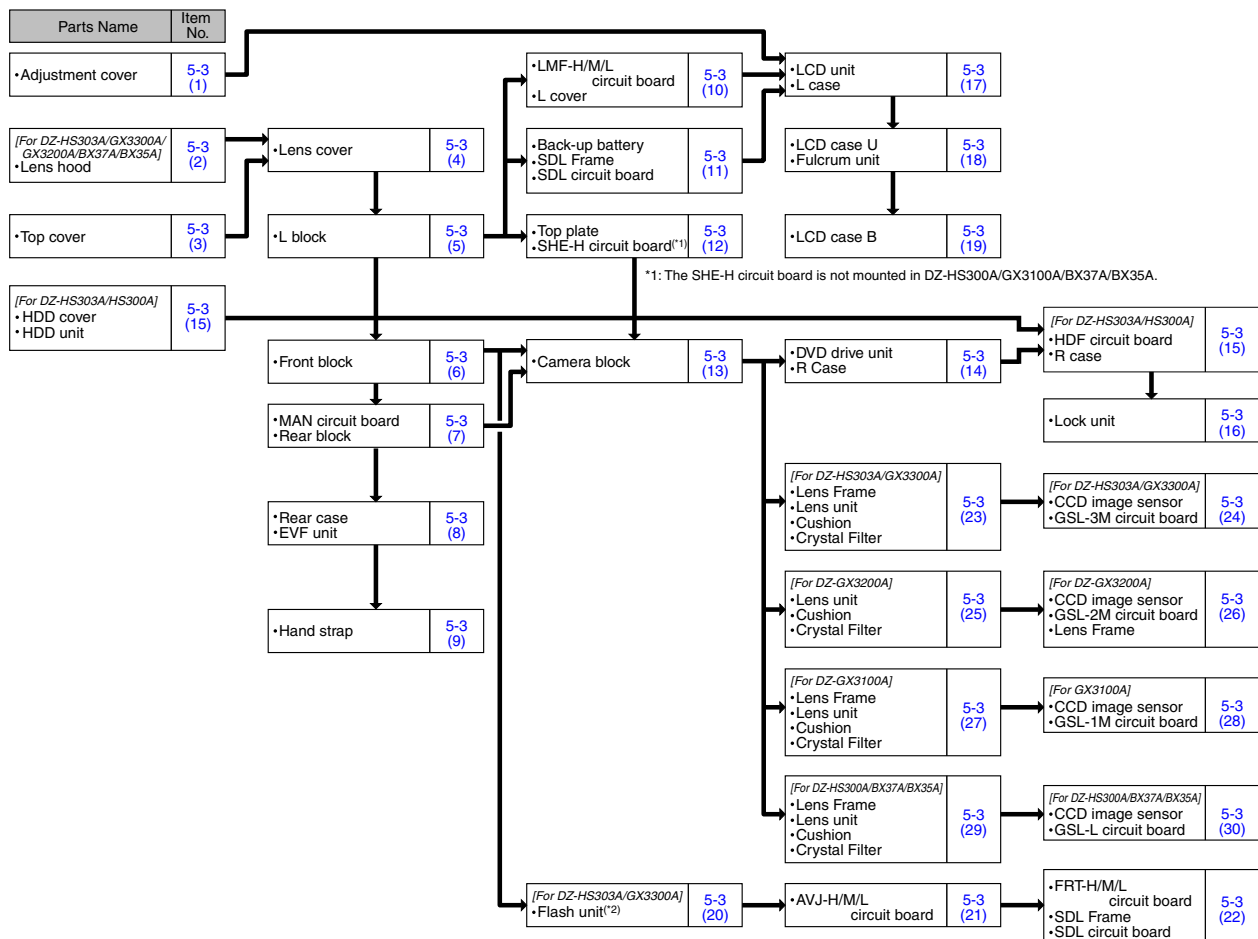

Fig. 5-2-1 Disassembly Flowchart
- 1) Refer to the disassembly flowchart in Figs. 5-2-1 for the order of removing each component.